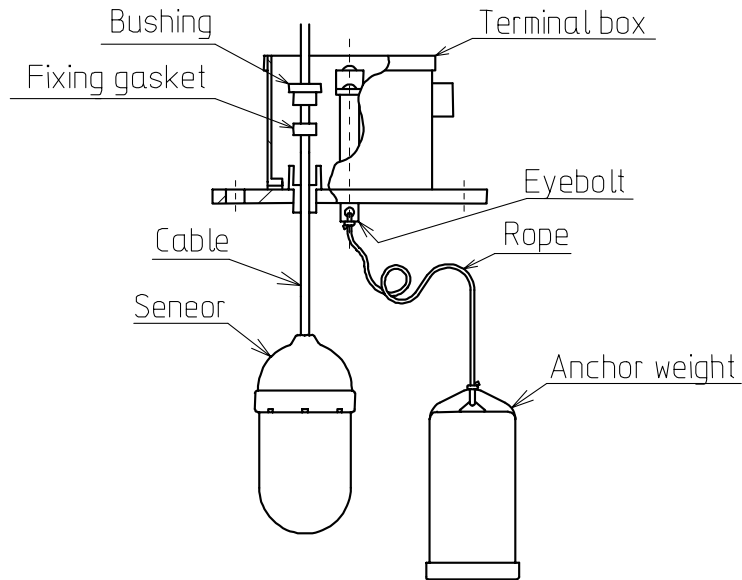

Fig. 7
- (1) Fasten one end to the eyebolt on flange and the anchor weight to another end of rope according to depth of the tank.
- (2) Put in the cable into the flange from wetted side, and then put the fixing gasket and the bushing into the cable. (Refer to Fig. 7)